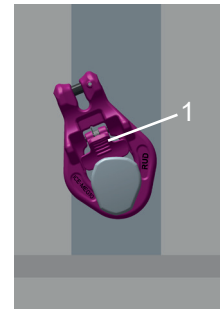

Fig. 4: IMEG hooked into bitt
1. Open the securing flap (1) of the skip container single suspension link and hang it into the bitt. The securing flap closes automatically (Fig. 4). Flap must be closed behind the face of the bitt.